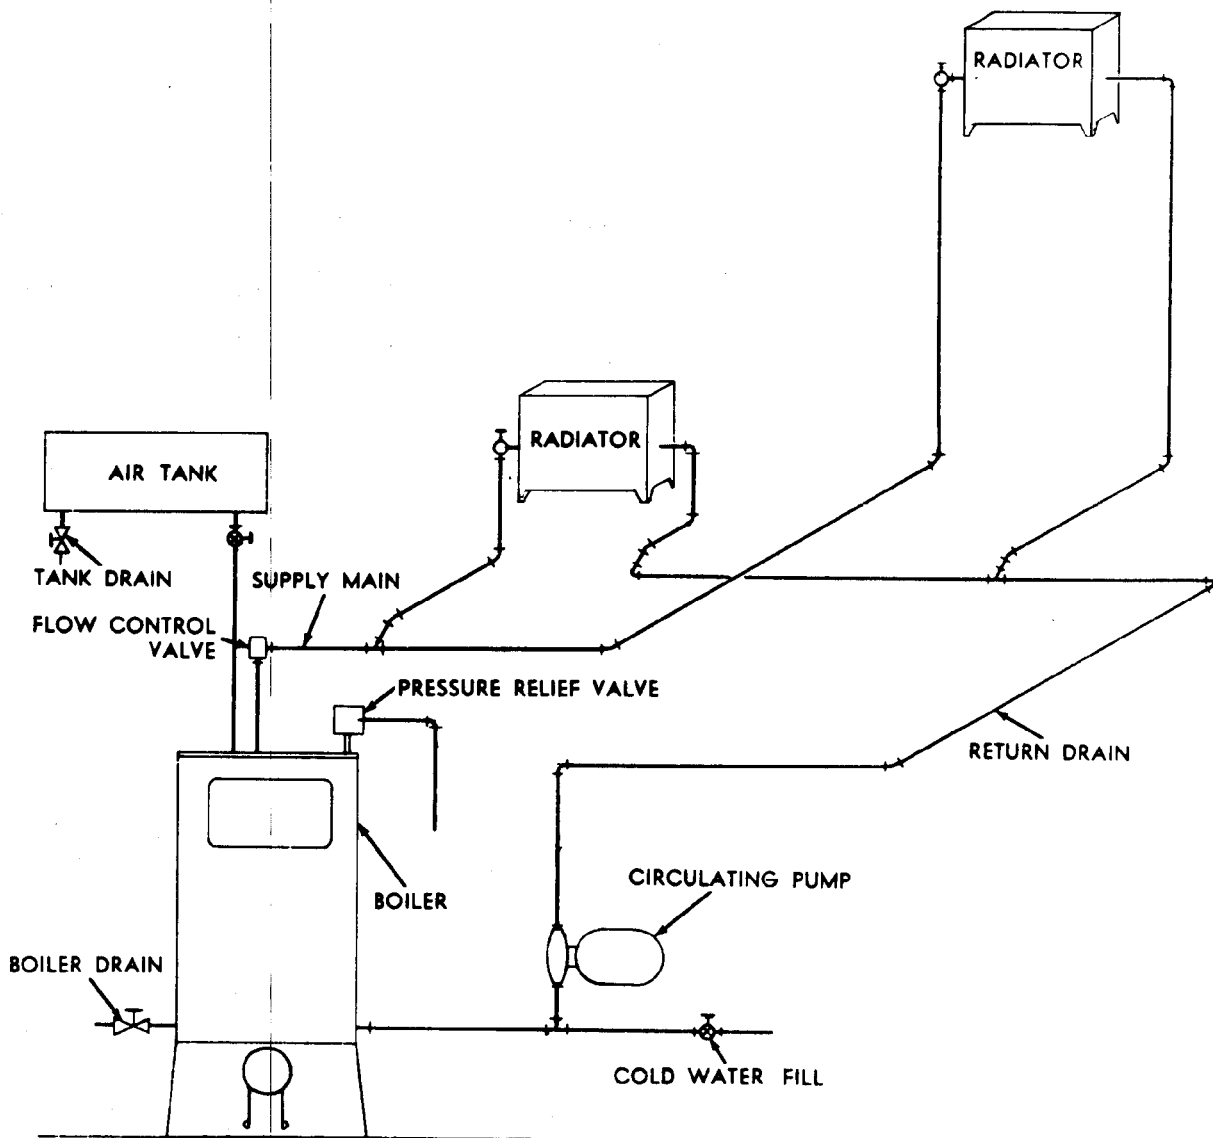

Figure 4-1. Forced-circulation hot water system.
a. Description. Systems in which water is heated at a central source and circulated through pipes to radiators, convectors, or unit heaters are called hot water heating systems (fig. 4-1). There are two general types: the gravity system, in which water circulation depends upon the weight difference between the hot column of water leading to the radiators and the relatively cooler, heavier column of water returning from the radiators; and the forced-circulation system in which circulation is provided by a power-driven pump. With both types, provision must be made to allow for expansion of the water in the system as the temperature rises. This may be accomplished by an open tank mounted at the highest point in the system, or by a closed tank which may be located at any point. Water is heated to temperatures below boiling in a boiler and circulated to heat transfer elements similar to those used with steam systems.
(1) Advantages.